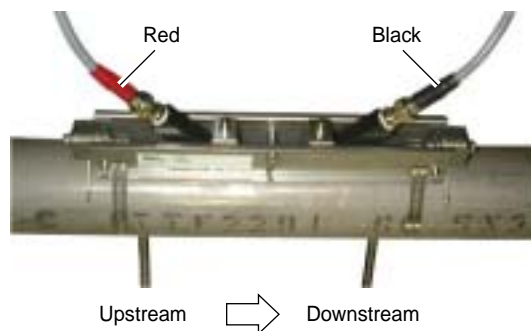

Fig. 3-17
- (4) Engage the signal line with BNC connectors of the sensor units. At this time, do not mistake the upstream and downstream sides for each other. Engage the red BNC connector upstream, and the black BNC connector downstream (see Fig. 3-17).